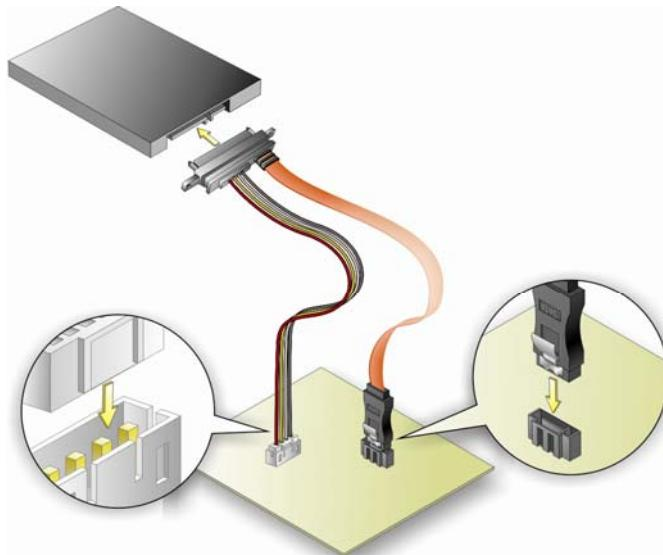

Figure 4-7: SATA Drive Cable Connection
Step 2: **Insert the cable connector.** Insert the cable connector into the on-board SATA drive connector and the SATA power connector. See **Figure 4-7**.
Step 3: **Connect the cable to the SATA disk.** Connect the connector on the other end of the cable to the connector at the back of the SATA drive. See **Figure 4-7**.